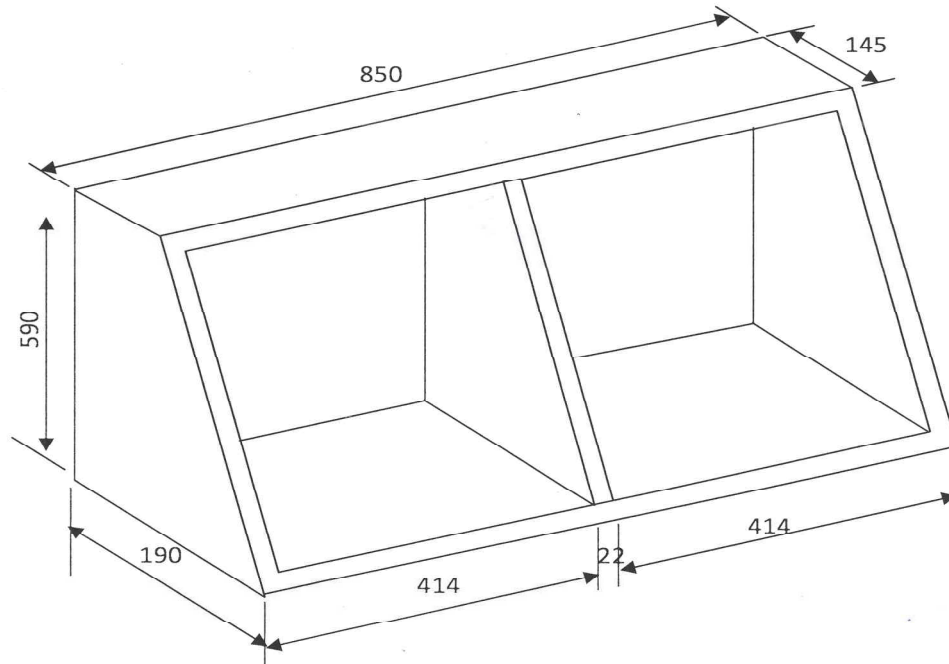

Figure 4
- (b) **Figure 4** shows pictorial views of wall mounted shelf. All members are 22 mm thick softwood.